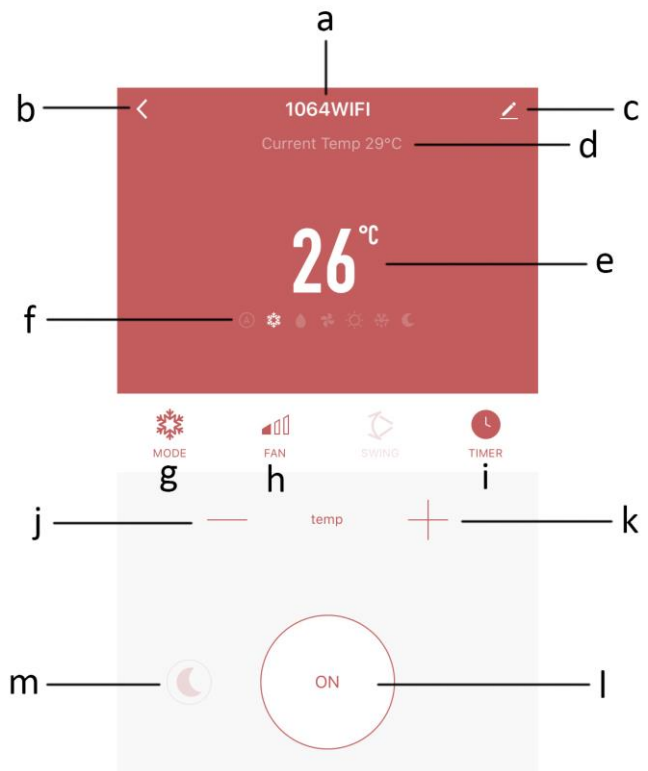

Fig.4
7. Now you can operate the air conditioner in the interface below (Fig.4). Press the corresponding button to set your appliance. In the mode and fan speed selection, you will see the same options as on the control panel of the appliance. However, in the timer, the max time setting is 23 hours, not the 24 hours on the control panel. Note that the SWING function is not available on your appliance.